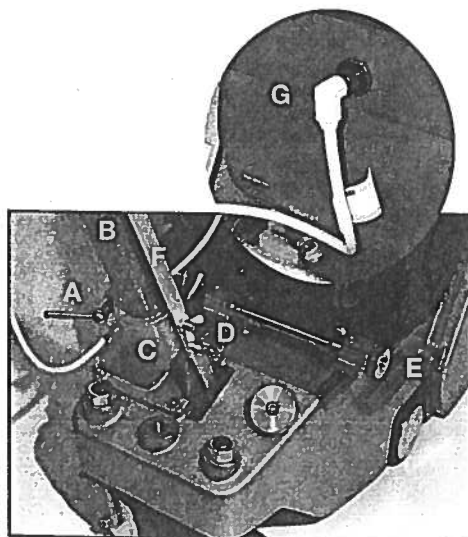

Fig. 01 A. Lever #3.06 B. Dust pipe #41 C. Dust pipe support #3 D. Wing nuts E. Knurled nut for motor mount #82 F. control rod #42 G. Quick Disconnect #76.09
2. Install dust pipe #41 into dust pipe support #3 on chassis and tighten lever #3.06. See Fig. 01. Make sure steering head is straight.